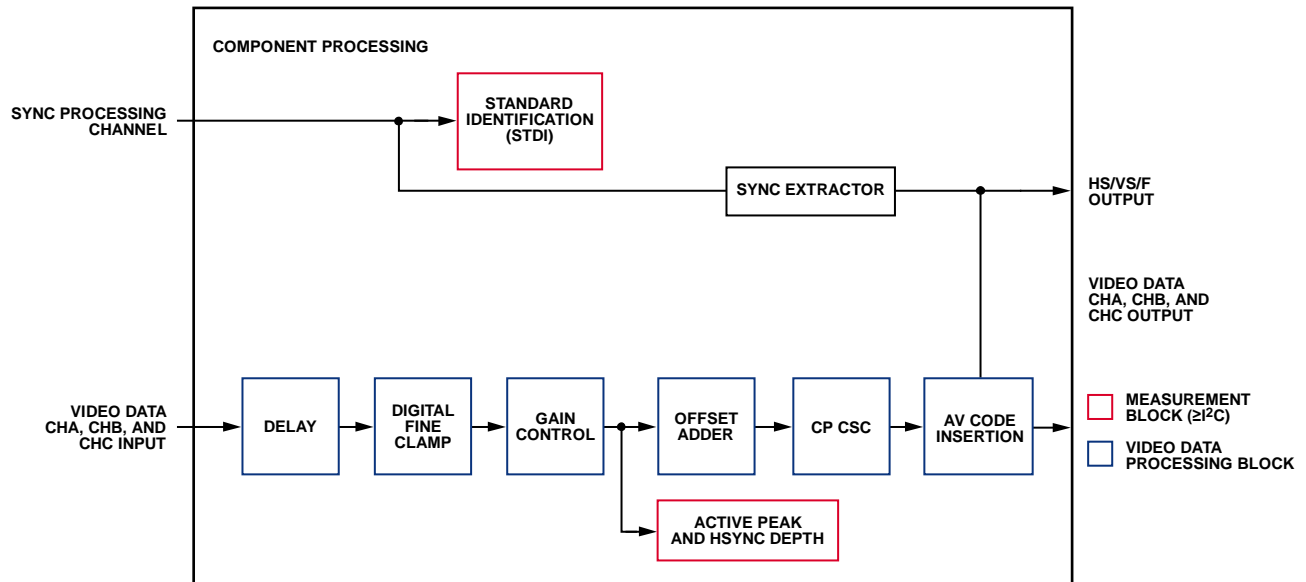

Figure 34. Component Processor Block Diagram
A simplified block diagram of the component processor (CP) on the ADV7610 is shown in Figure 34. Data is supplied to the CP from the data preprocessor (DPP). The CP circuitry is activated under the control of [PRIM_MODE\[3:0\]](#) and [VID_STD\[5:0\]](#).